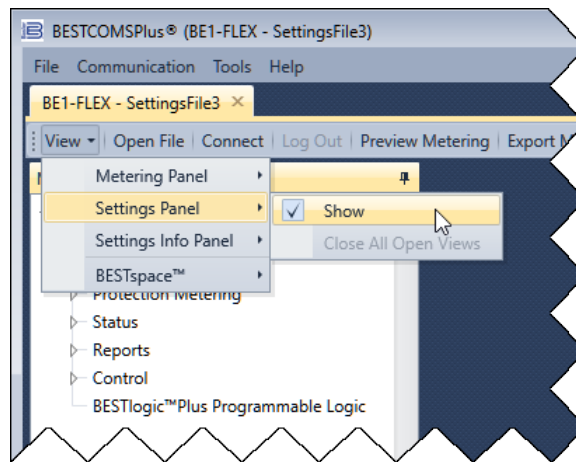

Figure 2-6. View Drop-Down Button
Click the View drop-down button to switch between the Settings Explorer and Metering Explorer or split the view between both. The Settings Info Panel displays settings ranges. A BESTspace™ workspace can be opened, saved, or set as default. See Figure 2-6.
- Step 4: Click on the View drop-down button and de-select Show Metering Panel and Show Setting Information. See Figure 2-6. This maximizes the settings workspace.